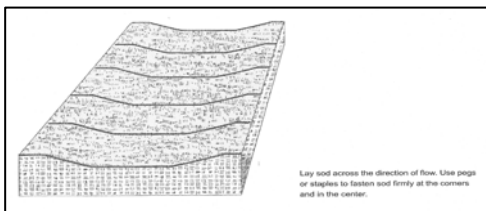

Figure SOD-2 Installation of Sod in Waterways
- Wherever concentrated flow may be a problem, install sod with the length perpendicular to the water flow (see Figure SOD-2) and secure by stapling firmly at the corners and middle of each strip. Jute or synthetic netting may be pegged over the sod for further protection during establishment.